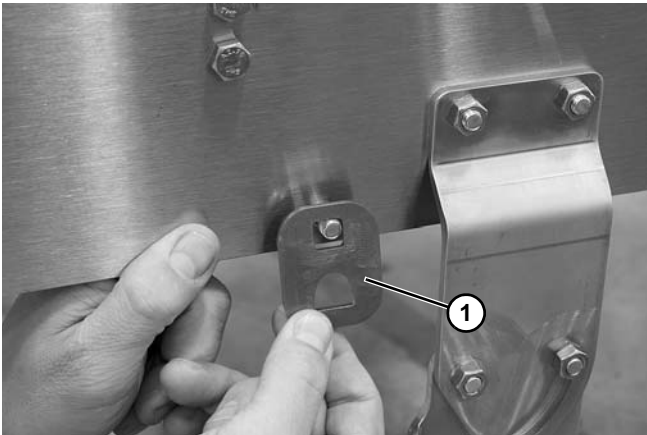

Figure 22
2. Install return bracket (Figure 22, item 1).